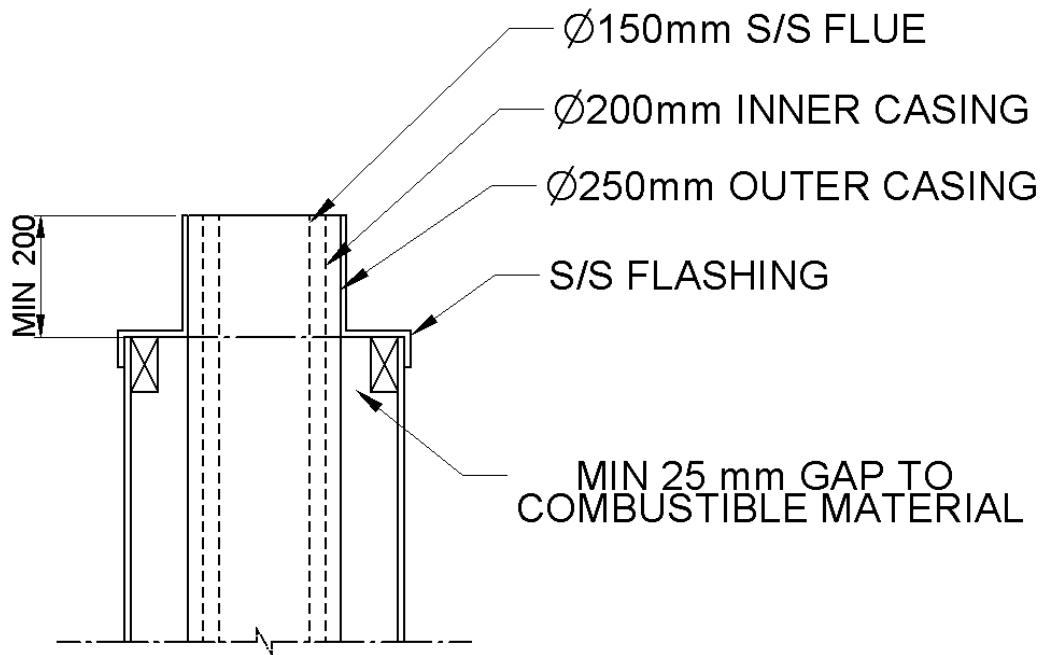

Fig. 9
20. Lower the assembled **flue** and **seal and fix it to the flue socket** of the heater. **Use a stainless steel screw**. Lower the inner flue casing and engage it with the special adaptor spigot ring, repeat this step with the outer flue casing. See Fig. 9 & 10 for flue and casing lengths.